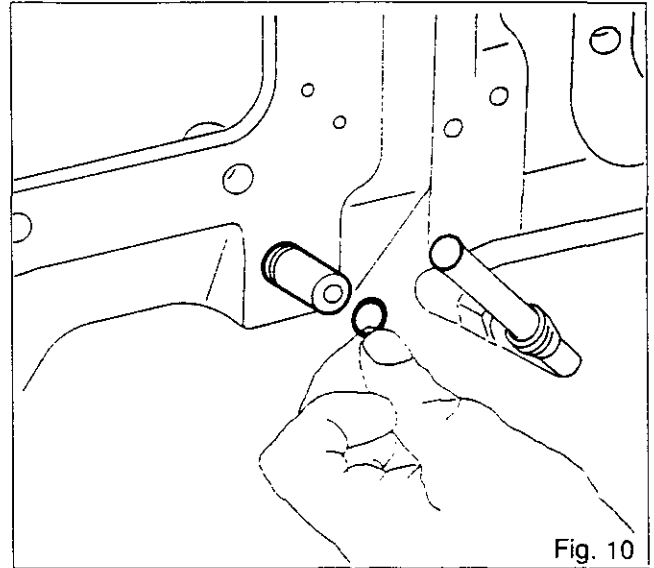

Fig. 10
20. Refit the control rod. Pull the rod as far as possible to the right. Lubricate and fit a new 'O' ring (Fig. 10).